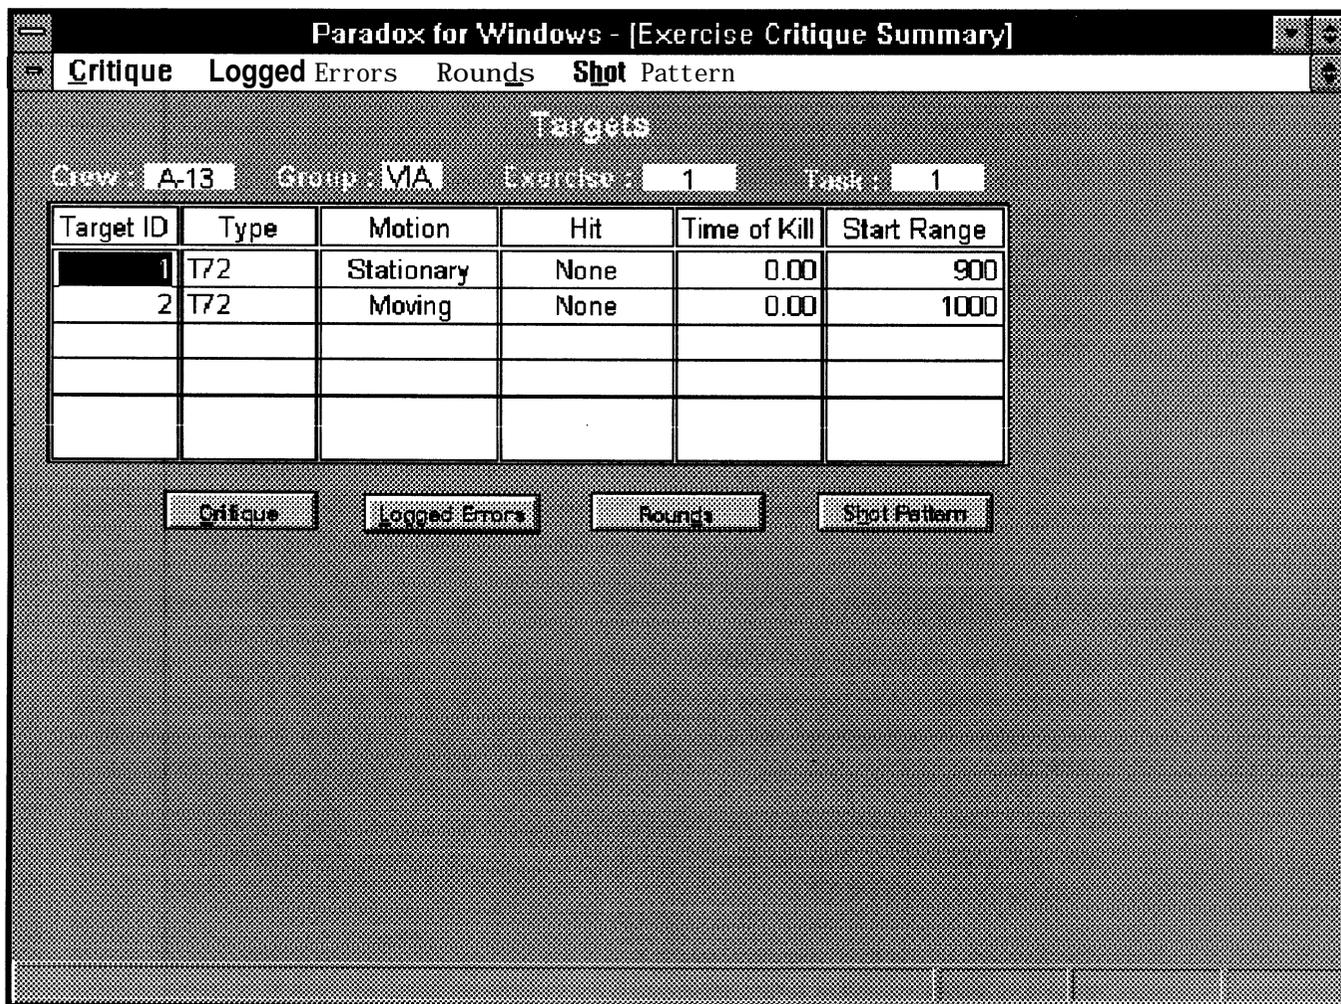

Figure 2-119. Targets Screen
- a. At the Exercise Critique Summary Screen, click on the Targets button or select Targets from the pull-down Critique Options menu. The Targets Screen, Figure 2-119, displays. This screen also displays as a result of selecting Targets at the Logged Errors, Rounds Fired, and Shot Pattern Screens. The following data displays:
- (1) Crew. Displays the crew identification number of the currently selected crew.